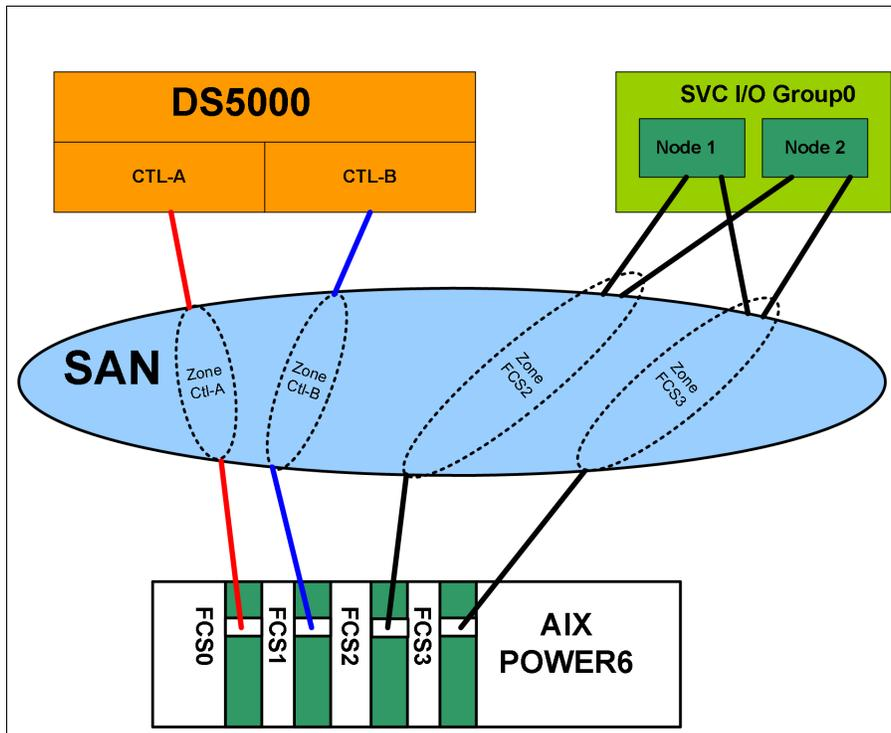

Figure 12-11 AIX MPIO and SDD coexistence using separate HBAs and zoning
**MPIO and SDD (or SDDPCM):** AIX MPIO and SDD (used by IBM DS6000™ and DS8000) are supported on the same AIX host but on separate HBAs and using separate zones (Figure 12-11). This configuration is commonly used when the same AIX server accesses DS5000 storage as well as DS8000 or SVC managed storage.
Figure 12-11 shows that it is possible to configure the SDD driver to attach to ESS, DS8000, DS6000 or SVC, and the MPIO driver to be used by the DS5000. However, it requires independent pair of HBAs for access to the DS5000 and another pair of HBAs for access to the ESS or similar on the AIX machine. Separate zones are needed for each HBA.